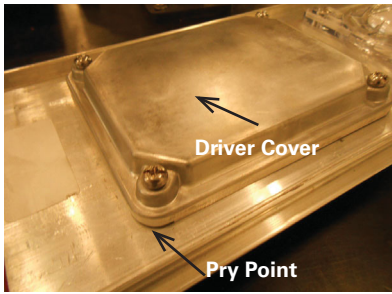

Figure 17
3. To aide in driver cover removal, a pry point is located on one corner of the driver (see Figure 17).